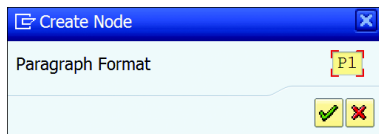

Figure 18.55 Create Node
4. In the CREATE NODE window (see Figure 18.55), enter the paragraph format name and click the green checkmark (or press).